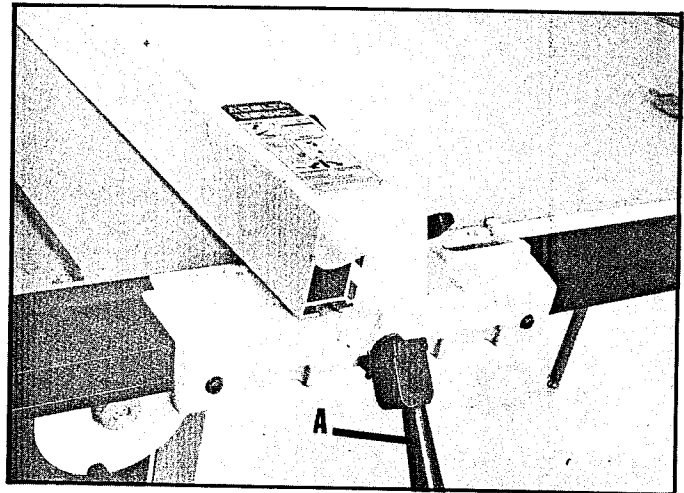
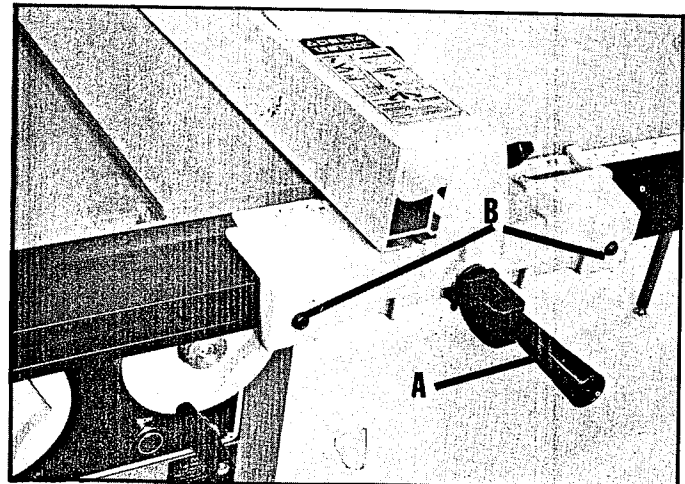

Fig. 50
Fig. 51
When the fence locking handle (A) is pushed to the down position, as shown in Fig. 50, the fence body should be completely clamped to the guide rail. If the fence body is not completely clamped to the guide rail when the lever is in the position shown in Fig. 50, lift up on locking handle (A) Fig. 51, and slightly tighten two screws (B). Screws (B) should be tightened an equal amount. Check to see if the fence body is completely fastened to the rail by pushing down on locking lever (A). Adjust further if necessary. **IMPORTANT: AFTER ADJUSTING THE CLAMPING ACTION OF THE FENCE LOCKING HANDLE, CHECK TO SEE IF THE FENCE IS PARALLEL TO THE MITER GAGE SLOT AND ADJUST IF NECESSARY.**